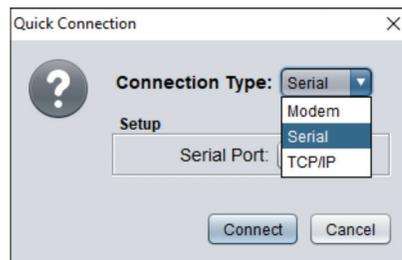

Figure 26
2. Upon selecting to create a new project, Focus will ask the user how to connect to the system. Click the drop-down tab next to "type" and choose "Serial". (Figure 26)